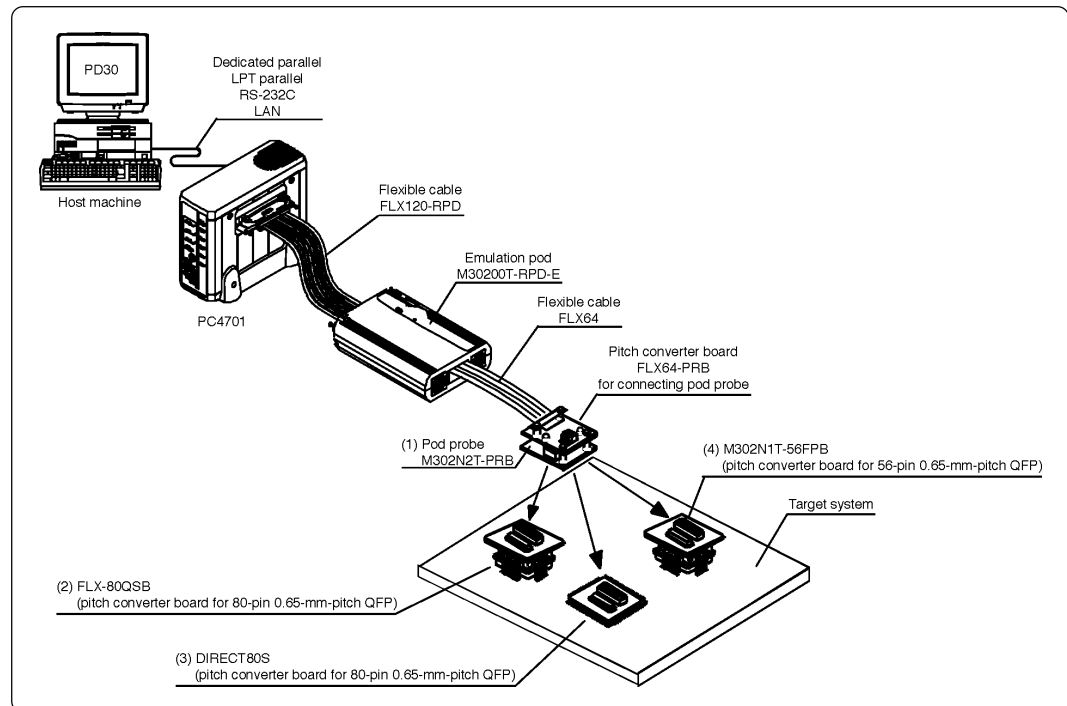

Figure 2.1 System configuration
Products (1) and (2) shown in Figure 2.1 are included with this product. Get (3) and (4) separately.
(1) Pod probe (M302N2T-PRB)